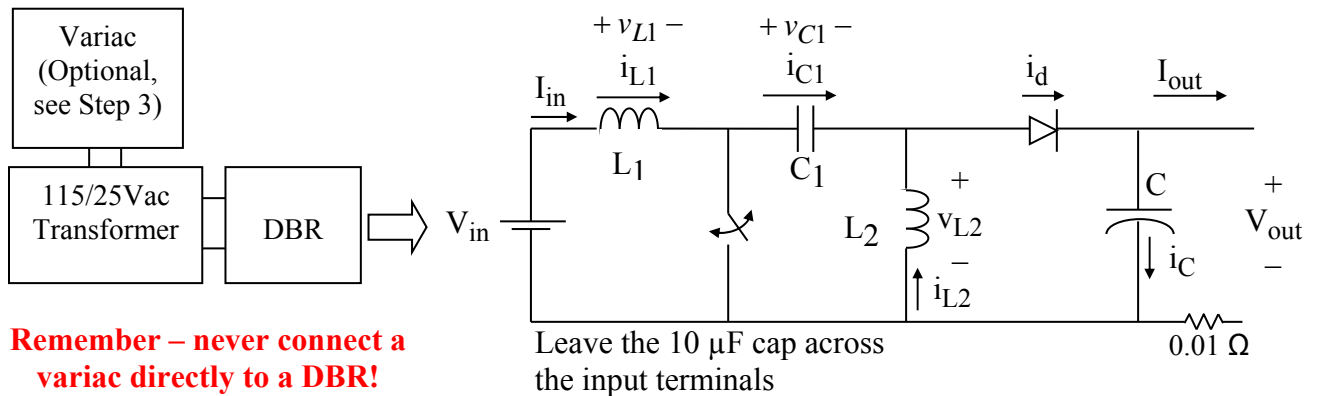

Figure 1. DC-DC SEPIC Circuit
The idealized SEPIC circuit is shown below in Figure 1. Under normal operation, the circuit operates with the inductor currents in continuous conduction (i.e.,  $i_{L1}$  and  $i_{L2}$  are always greater than zero).
1. Reconfigure the buck or boost components according to Figure 1 in this document. Secure new components  $C_1$  and  $L_2$ . Make all connections. Capacitor  $C_1$  is bipolar (*i.e., not polarized*).